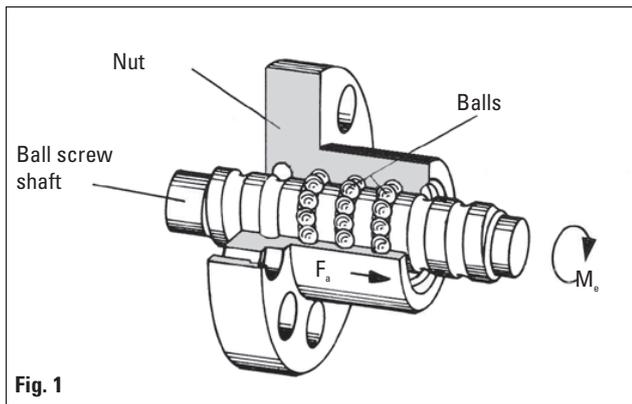

Fig. 1
(A) Efficiency for ball screws according to Fig. 1